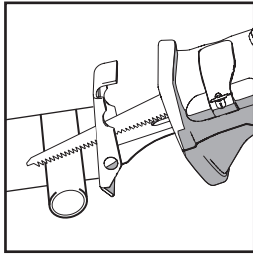

Fig. 8
- Cut through the workpiece slowly allowing the flexible blade to curve as required. **(Fig. 8).**